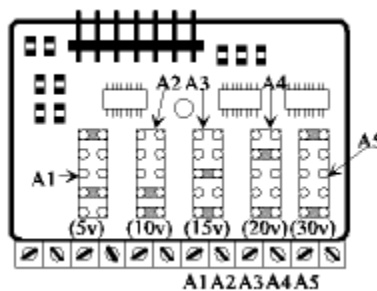

Figure 5. Interface Unit Jumper Settings
- Figure 5 – Interface Unit Jumper Settings
4. INTERFACE UNIT INSTALLATION: The Interface Unit provides for connection of the vessel sensors to the VS52(U) monitor input. Signal conditioning, in the form of filtering and scaling, is provided inside the Interface Unit. All analog inputs (A1-A5) must have the appropriate full-scale input voltage set by jumpers within this unit. Figure 5 shows an example of each of the 5 full-scale settings available.